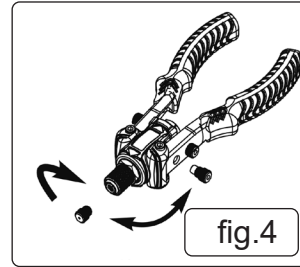

fig.4
- 4.1.3. Place correct size nose piece into unit (fig.4).